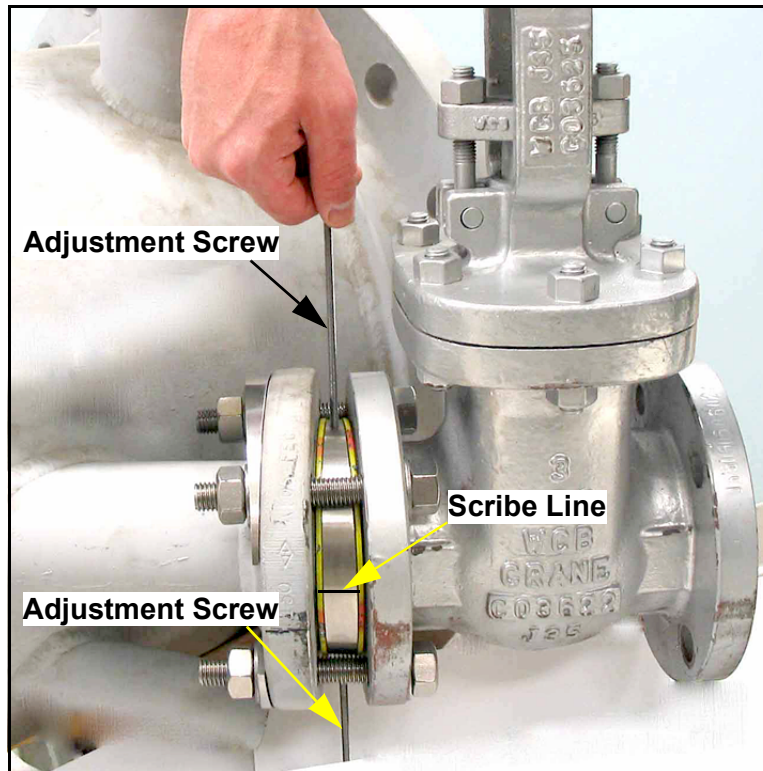

Figure 5: Mounting the Isolation Valve
4. While one person holds the gaskets and wedges in place, another person should line up the isolation valve mounting holes with the bolts in the nozzle flange, push the isolation valve against the gasket/wedge/gasket combination, and install the washers and nuts to secure the isolation valve to the nozzle flange (see *Figure 5* below).